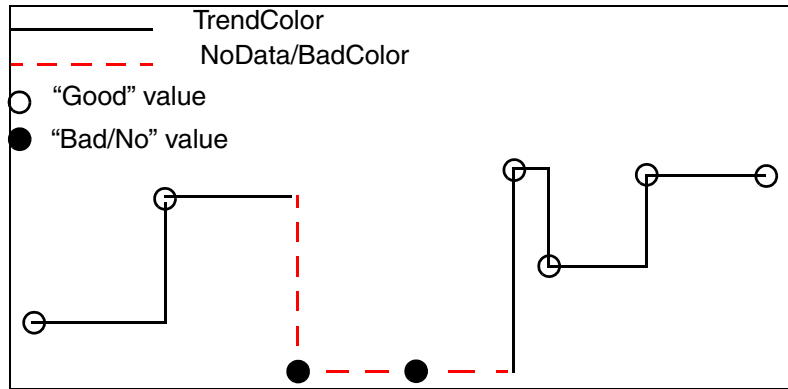

Figure 101. Curve Drawn in Curve_Rectangle Mode
- *curve_rectangle* - Values are connected horizontally and vertically, drawn with the specified line width, Figure 101.